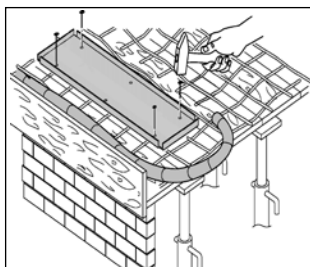

Fig. 8
1. Nail the cover plate onto the shuttering, observing the correct alignment of the cover, since it cannot be adjusted later on (fig. 8).